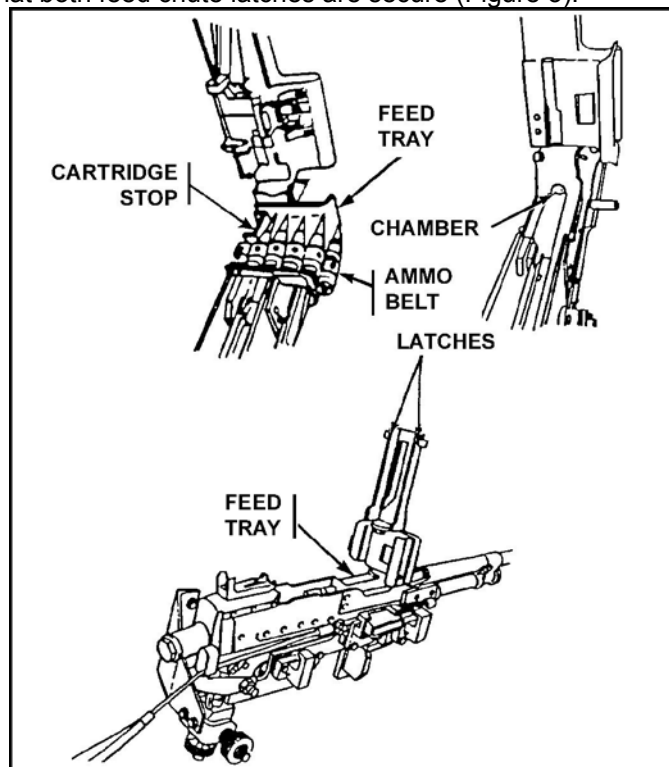

Figure 3. Feed chute latches.
- f. (BC) Open the feed tray.
- g. (BC) Check the receiver and the chamber for jammed rounds or links. Remove the residue.
- h. (BC) Make sure the rounds are aligned evenly on the ammunition belt.
- i. (BC) Check that both feed chute latches are secure (Figure 3).